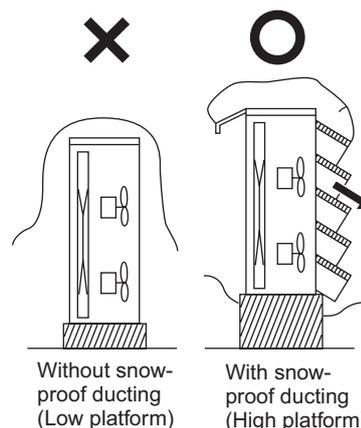

Fig. 1-19
In regions with snow and strong wind, the following problems may occur when the outdoor unit is not provided with a platform and snow-proof ducting (Fig. 1-19):
- (1) The platform should be higher than the max. snow depth. (Fig. 1-19)
- (2) The 2 anchoring feet of the outdoor unit should be used for the platform, and the platform should be installed beneath the air intake side of outdoor unit.
- (3) The platform foundation must be firm and the unit must be secured with anchor bolts.
- (4) In case of installation on a roof subject to strong wind, countermeasures must be taken to prevent the unit from being blown over.